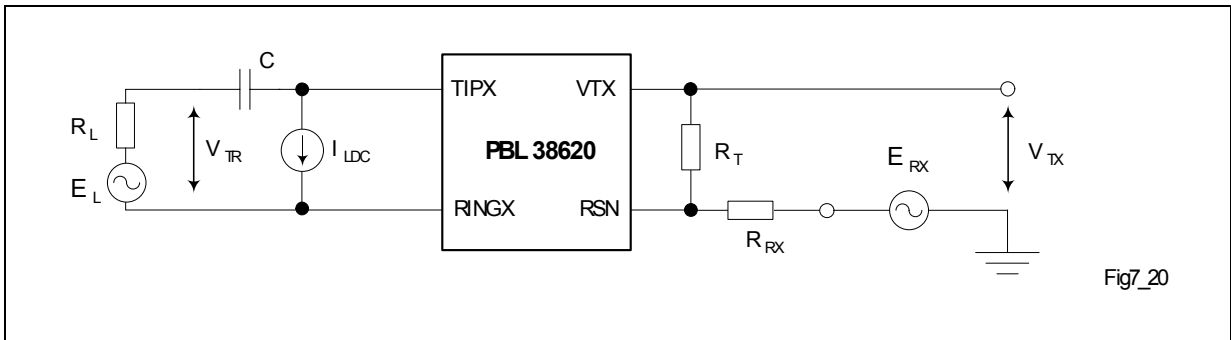

Figure 7 Frequency Response, Insertion Loss, Gain Tracking
- 8) The two-wire idle noise is specified with the port terminated in $600 \Omega (R_L)$, and with the four-wire receive port grounded ($E_{RX} = 0$; see Figure 7). The four-wire idle noise at V_{TX} is specified with the two-wire port terminated in $600 \Omega (R_L)$. The noise specification is referenced to a 600Ω programmed two-wire impedance level at V_{TX} . The four-wire receive port is grounded ($E_{RX} = 0$).